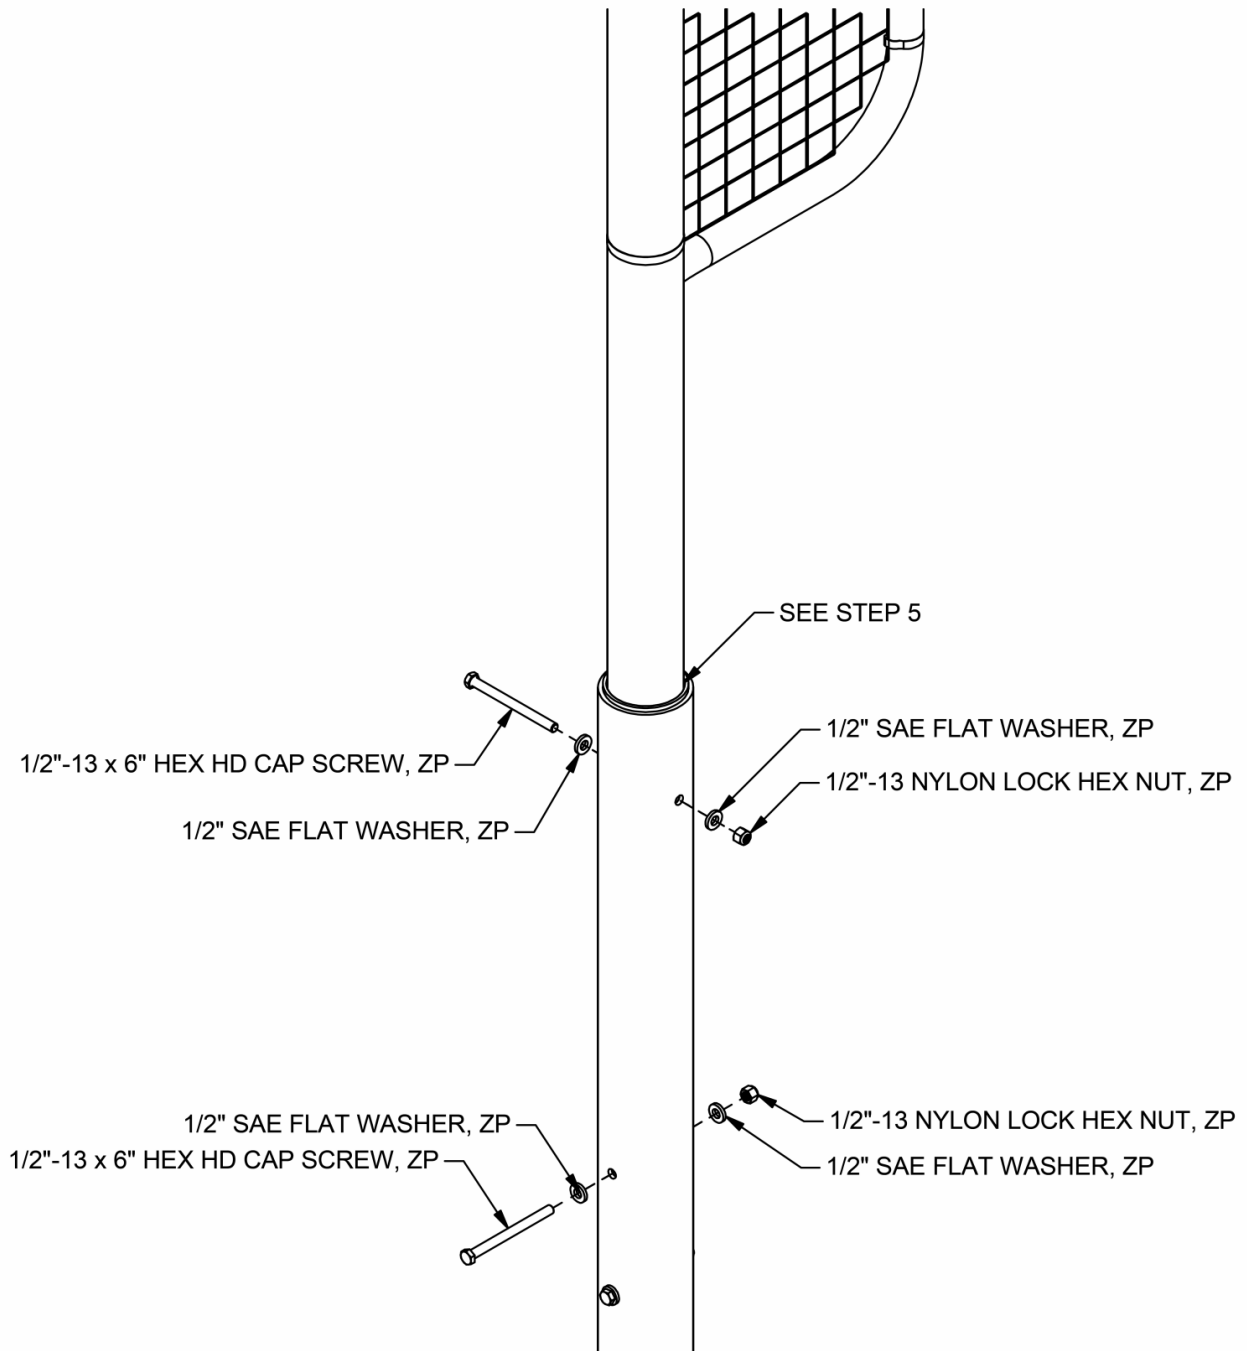

FIGURE: 11
4. Assembly the top and lower foul poles with 1/2" hardware as shown on figure 11.